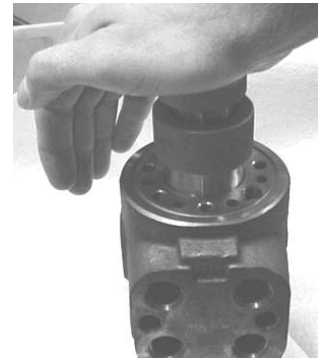

Figure 13
9. Push plunger into sleeve until it bottoms out, rotate 1/4 turn (figure 13).